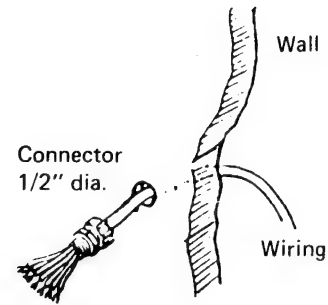

Fig. 13
- a) Insert the interunit wiring (according to local codes) into through-the-wall PVC pipe. Run the wiring toward indoor unit. Fig. 13.